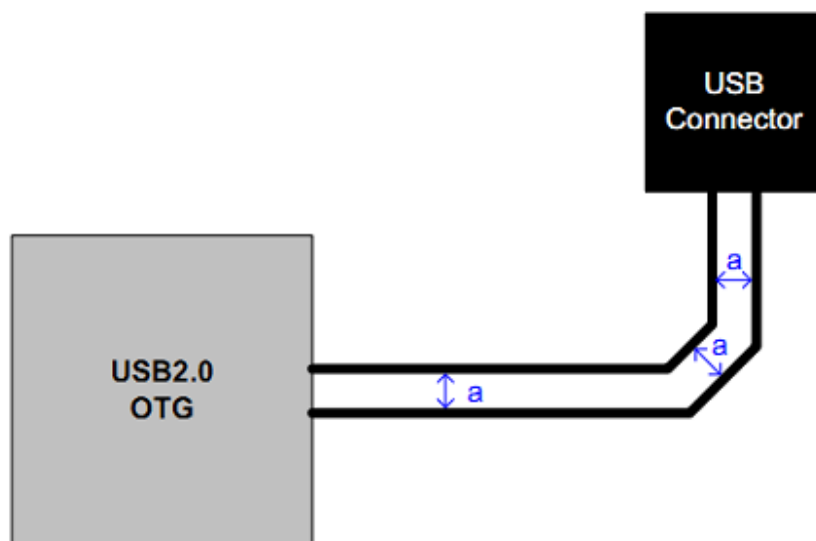

Figure 11-3
- The USB signal traces must strictly follow the requirements of differential pair rules. Using arc or obtuse angle at the corners of traces as much as possible, right-angle or acute angle is unallowable, and the impedance requirement $Z=90\pm10\Omega$, shown as Figure 11-3;